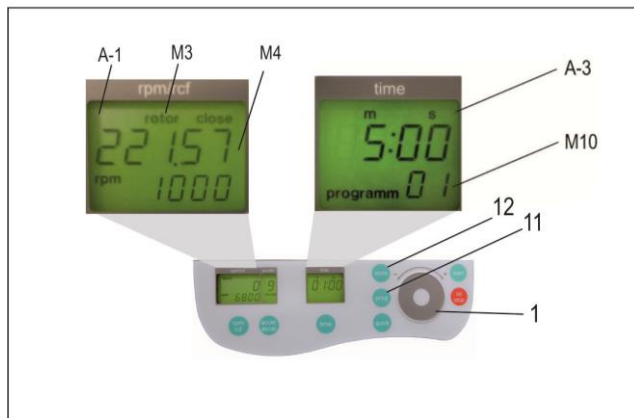

Figure 16
Put the desired rotor into the centrifuge. By pressing the key, "prog" (11), in the display "time" (A-3) appears the word "program", (see Figure 16). With the adjustable knob (1), choose the desired program number.
If a program number is already occupied, in the display "rpm/rcf" (A-1), the words "rotor" (M3) and e.g. "221.57" (M4) will appear, (see Figure 16). Free program numbers will appear as 0.